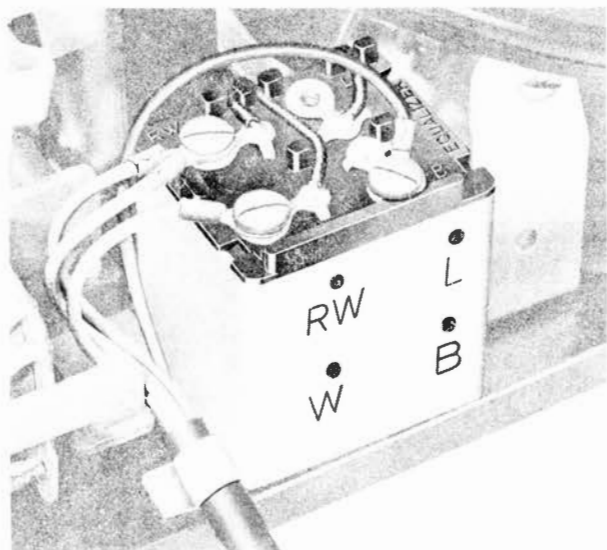

Fig. 1 - 311A Equalizer
- Sets coded 500A/B and 501A/B have 311A equalizers, Fig. 1, and 425A networks, Fig. 2.